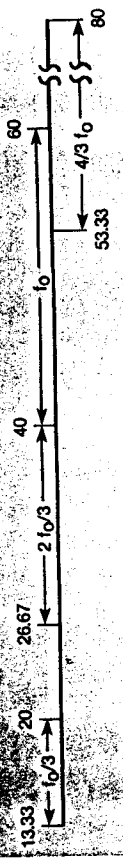

Figure 8B. 40 to 60 GHz harmonic products.
**40 to 60 GHz:** This band is generated on the WJ-1204-42 by tripling 13.33 to 20 GHz. The harmonic products are charted in Figure 8B. As before, the output will not contain any 13.33 to 20-GHz feedthrough because this signal is cut off by the waveguide. Part of the  $2/3$  harmonic is also cut off; however,